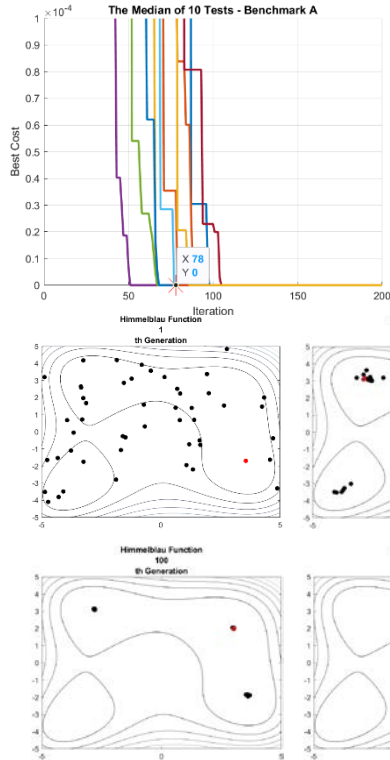

Figure 2
Further, how does the convergence happen has been analysed visually using MATLAB's contour feature. The Figure 2 provides snapshots of five outcomes during the generation process. This is the result of the code (see Appendix A4) that has been designed in such a way that it plots and then terminate the process during the generation process when the actual optimum value of Himmelblau function is reached, which is zero. The points indicate in the plot are the pairs, since it's a two-variable problem, of which
- It is found that, with the existence of tolerance value, here it is  $10^{-5}$ , the values of MaxIt does not have a significant effect after a certain value. Figure 10 (see Appendix B B1) stands out associated result. All the outcomes were situated around the MedianBM1. As can be clearly seen in Figure 2, the union of solutions has been taken place within 100 generations, and rest 143 generations are to reach the optimum solution for all the selected solution samples.
- The progress of convergence into a single cluster with the first variant (associated with Figure 2) found to be a linear function with a negative slope because, algorithm to reach the optimum value makes a gradual progress. Even at 100th generation, the solution space has been clustered into three regions. The union of those into single optimum solution could be seen only after that.